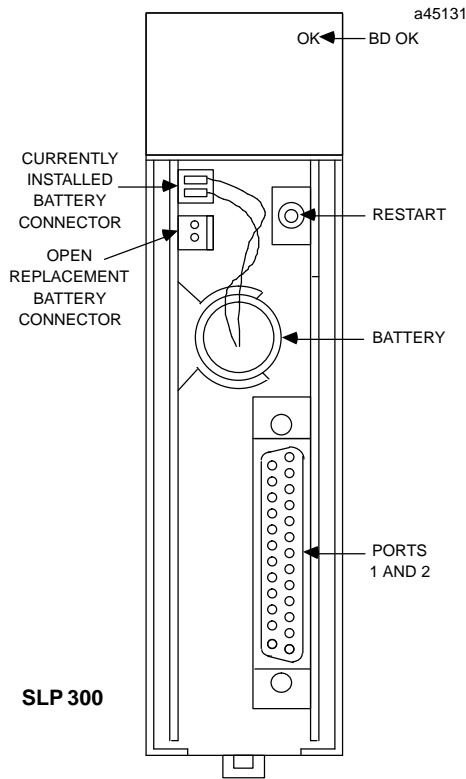

Figure 2. State Logic Processor Module User Details
- Connect the battery to either of the battery connectors on the module. (See figure 2)
The SLP module has 46 Kbytes of user program memory space. Additional memory exists for Input, Output, Register, and other variable data (see table 3). The battery which supports this memory is located on the SLP module as shown in figure 2.
There is one visible status LED located on the SLP module as shown in figure 2. This LED (OK) indicates
A lithium battery (IC697ACC301) is installed as shown in figure 2. This battery maintains user memory when power is removed. Be sure to install a new battery before removing the old battery (two connectors are provided). Indication of a low battery is provided through the ECLiPS programming system software (see reference 2) and IC641 Programming Software (see reference 4).